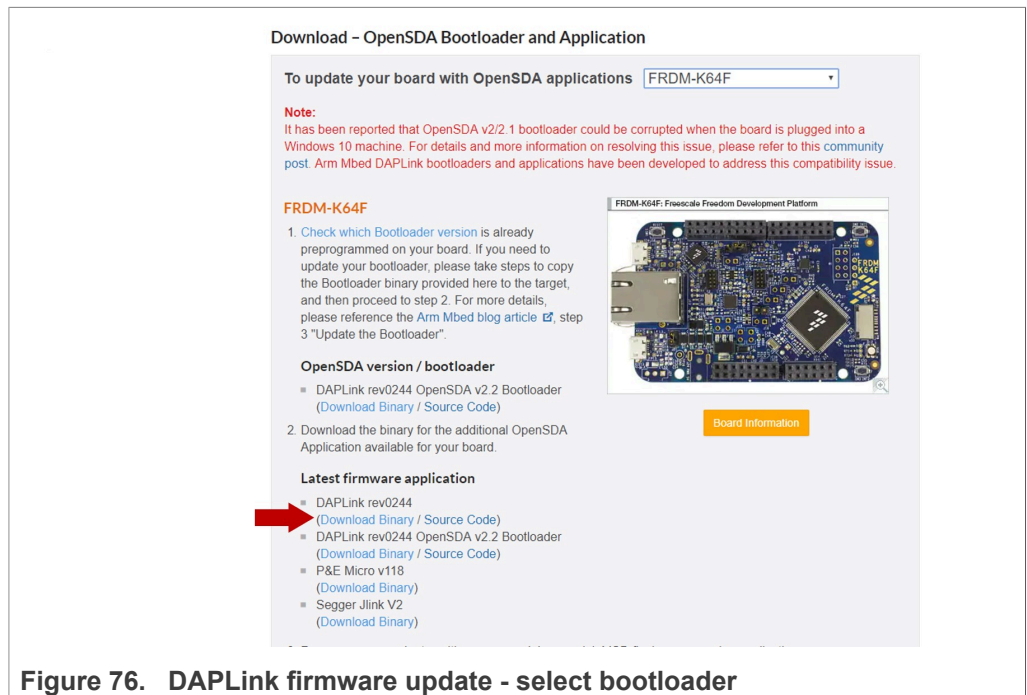

Figure 76. DAPLink firmware update - select bootloader
3. Download the latest DAPLink firmware version as shown in Figure 76:
Note: In case the device does not show up in your Device Manager, please download the latest bootloader version, as shown in Figure 76, or check / exchange the USB cables used.